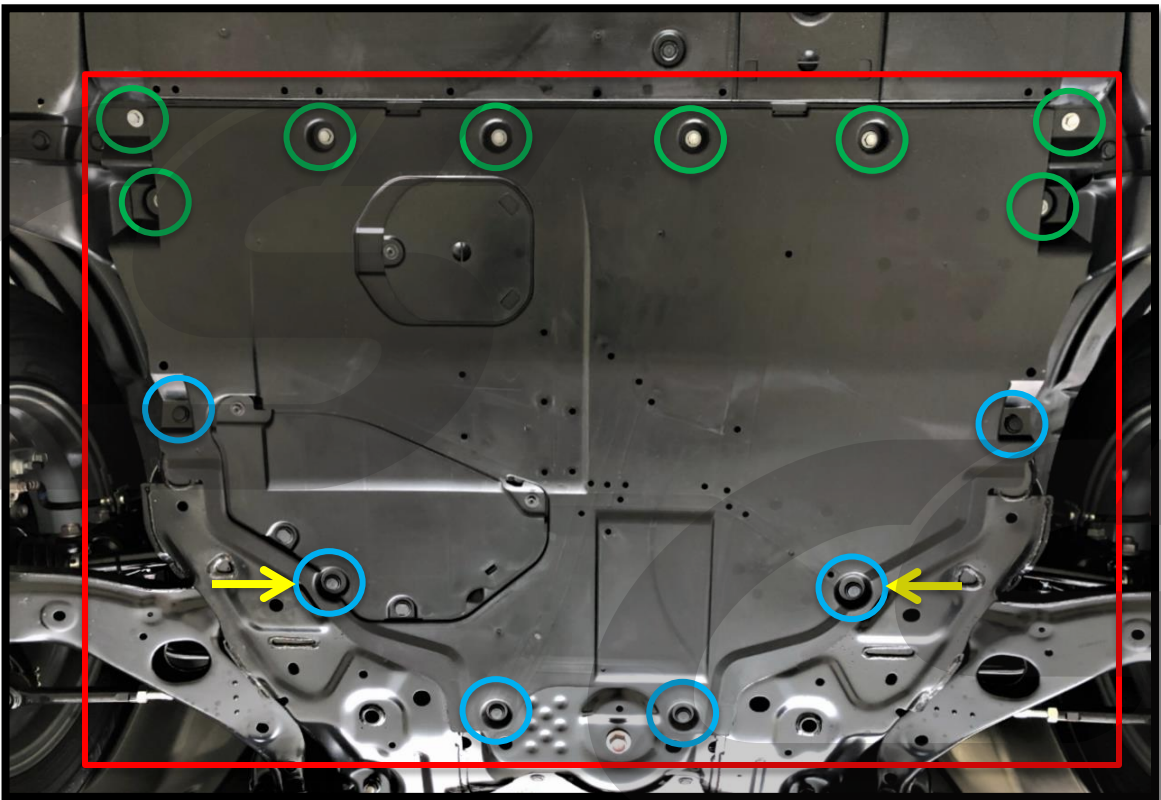

Figure 1a
- b) Locate the rear section of the OEM splash shield. Shown with red square in **Figure 1a**.
- c) Remove six (6) push clips from the OEM splash shield using a flat head screwdriver or push clip removal tool. Shown circled in blue in **Figure 1a**.
- d) Remove eight (8) 10mm bolts from the OEM splash shield using a 10mm socket and ratchet. Shown circled in green in **Figure 1a**. Then remove rear section of the OEM splash shield. Do not discard this hardware, you will be reusing some of it later.
- a) Install two (2) extruded U-nuts onto the tabs two of the push clips were removed from in Step 1c. These tabs are shown circled in red in **Figure 2a** (these locations are also shown with yellow arrows in **Figure 1a**). Push the U-nuts on until the threaded portion is centered in the hole on the tab, as shown in **Figure 2b**.